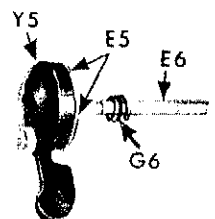

Fig. 140. Bight Lever Reassembled
17. Mount friction spring **G6**, **Fig. 140** on regulating shaft **E6**, so that ground face of spring faces flange on shaft.